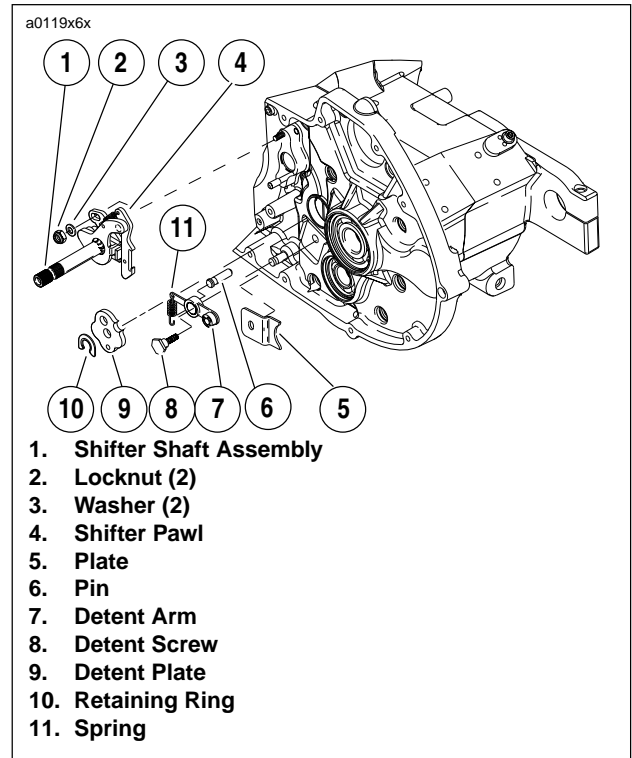

Figure 6-60. Installing Shifter
1. See Figure 6-60. Lift pawl over drum pins and place shifter shaft assembly on studs at transmission case. Loosely install a washer and locknut on each stud.